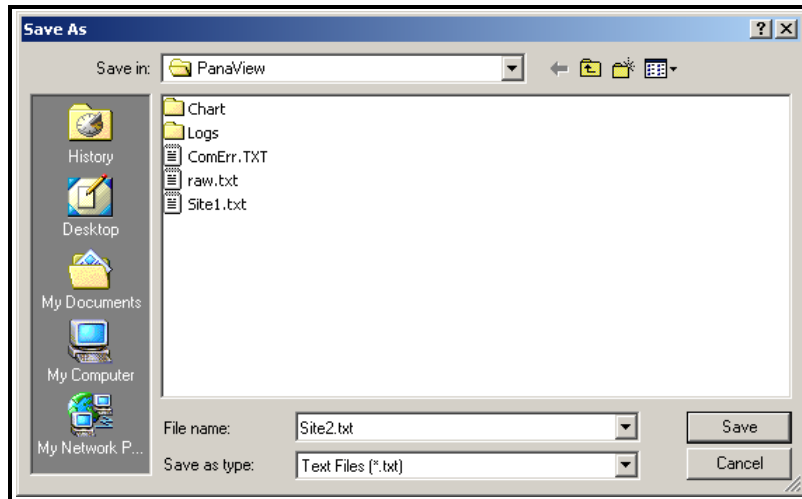

Figure 30: Save As Window
To *save* the raw signal, click *Save*. A window opens similar to Figure 30 below. Enter the desired name, and click *Save* to save the signal as a text file.
2. Click *Save Site to PC*. A window opens similar to Figure 30 on page 107.